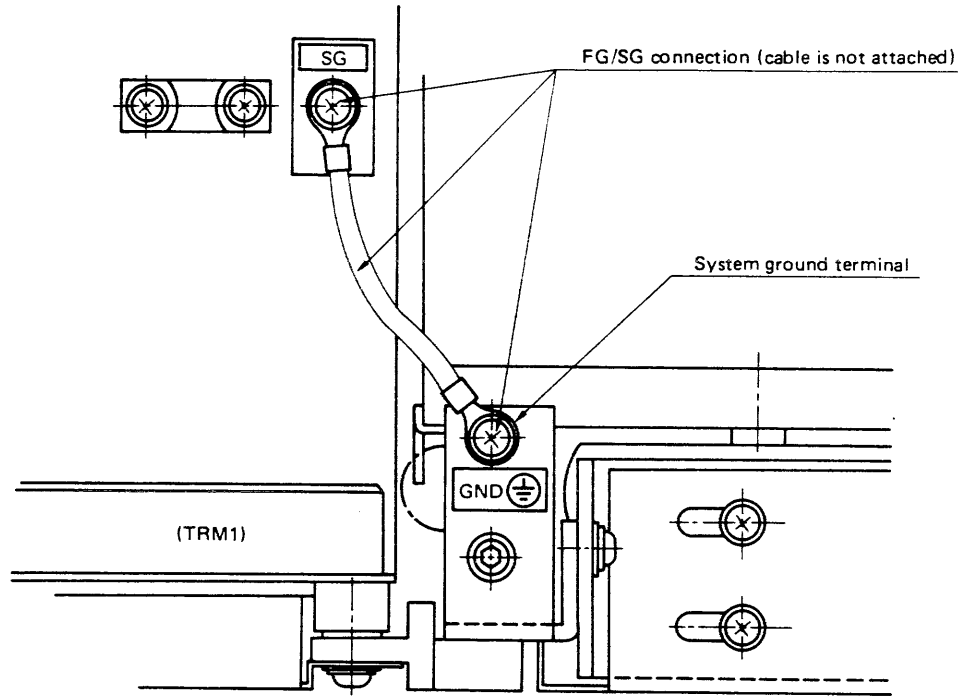

Figure 3-5-9 Ground terminal on the unit
- (1) The frame ground (FG) and signal ground (SG) within FDU are separated. If the FG and SG connection is required on the system, connect the grounding cable as shown in Figure 3-5-9, or if the system ground is required between the system and FDU, serve the ground conductor to the GND terminal.